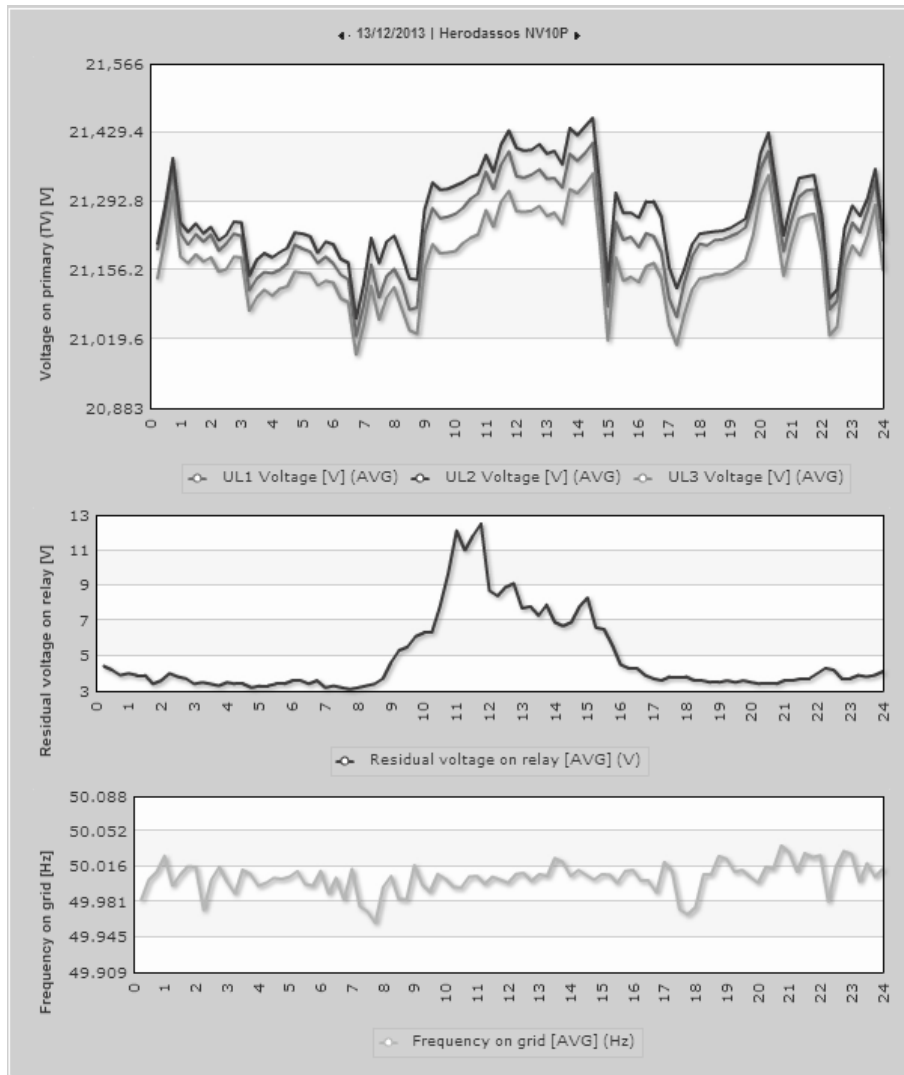

Figure 161 – Protections/General Charts
- : opens the Charts page (Figure 161)